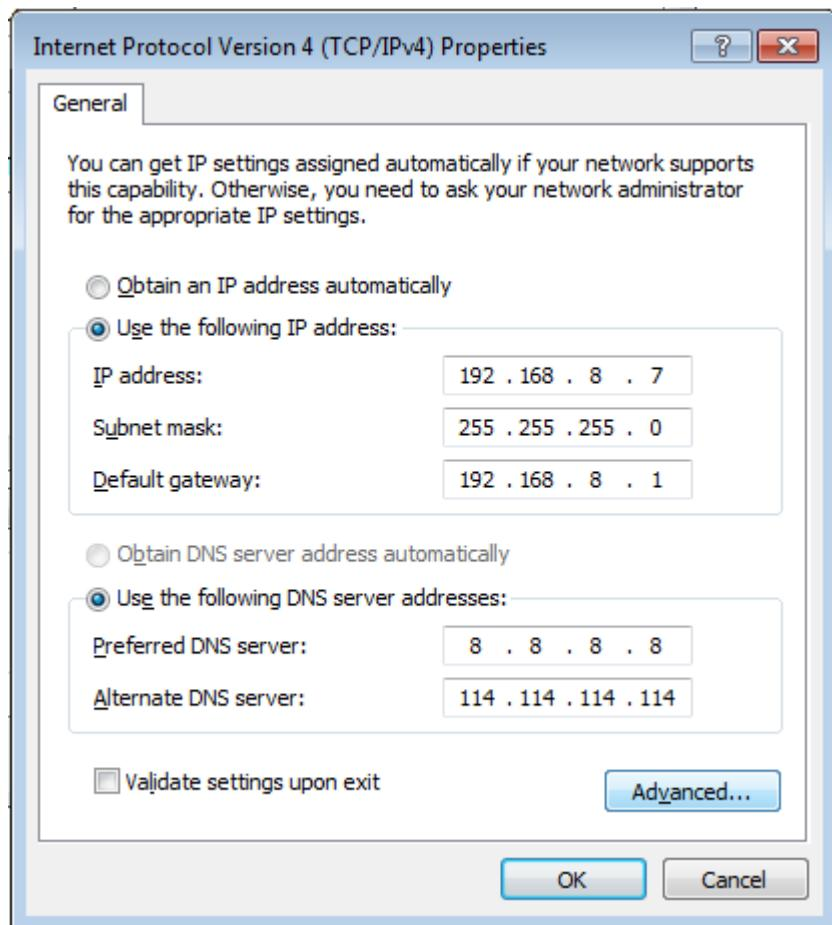

Figure 4-4 Internet Protocol (TCP/IPv4) Properties Window 3
1. In the Local Connection Properties window, double-click Internet Protocol (TCP/IP) to open the Internet Protocol (TCP/IP) Properties window. Modify the general network configuration in the General tab. As shown in Figure 4-4.